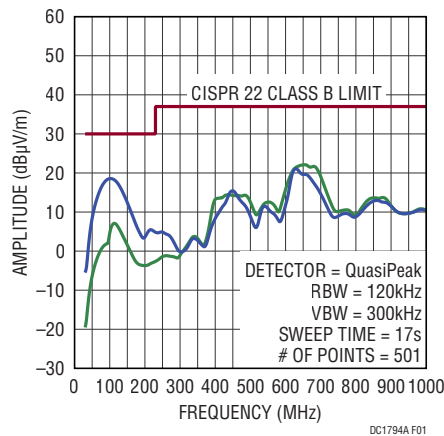

Figure 1. DC1794A Radiated Emissions
4. Optional discrete bridge capacitors (C3, C4) can be mounted between GND2 and GND. The discrete capacitors provide additional attenuation at frequencies below 300MHz as shown in Figure 1. Capacitors are safety rated type Y1, manufactured by Vishay, part # VY115K31Y5SQ63V0.
EMI performance is shown in Figure 1, measured using a Gigahertz Transverse Electromagnetic (GTEM) cell and method detailed in IEC 61000-4-20, "Testing and Measurement Techniques—Emission and Immunity Testing in Transverse Electromagnetic Waveguides".